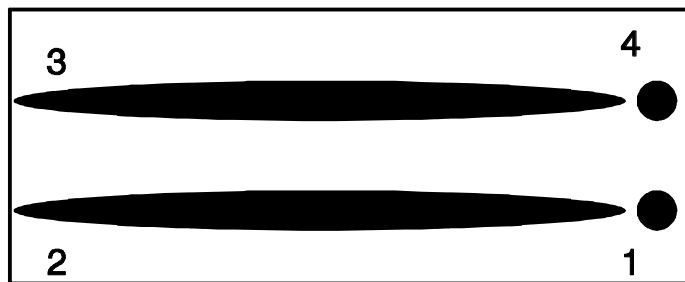

Figure 10. Femtosecond radiation pattern on the compressor grating
2. Rotate compressor grating angle so the angle between input and diffracted beams is equal 22 degrees (rotation stage position should be approximately at 25 degrees). The input beam entering the compressor should be reflecting off the lower right corner of the compressor grating G2 before entering the horizontal retroreflector HR1, as shown in the Figure 10: